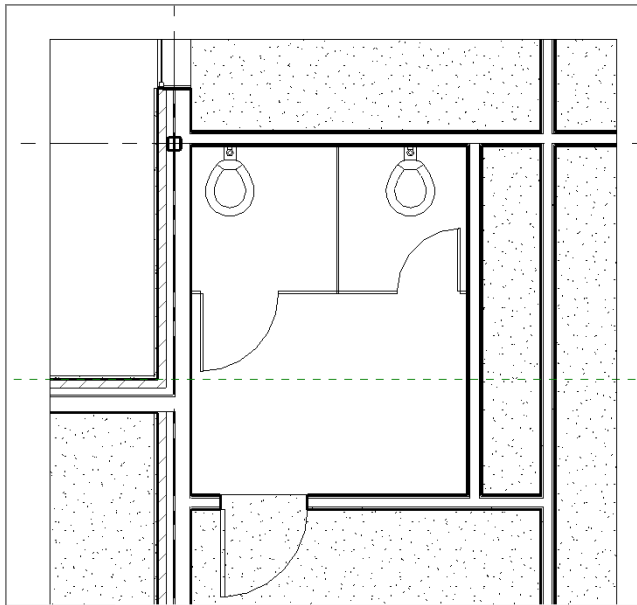

FIGURE 9.41: The two toilets and stalls in place
7. Place the stall in the model (see Figure 9.41).